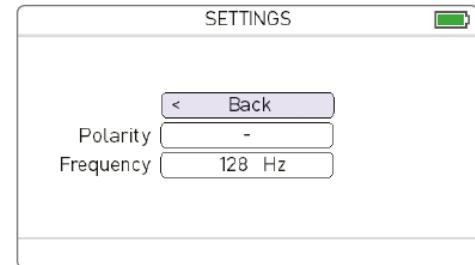

Figure 23. Settings
- Press  to access SETTINGS (see figure 23).